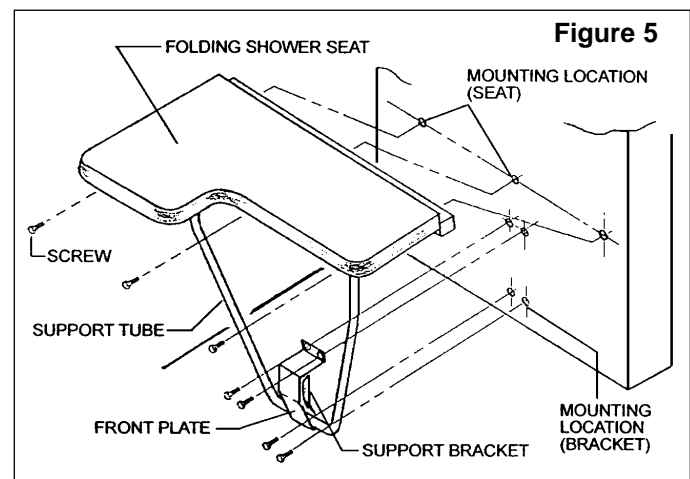

Figure 5
- Position the seat support tube in the support bracket as shown in Figure 5. The tube should rest on the bottom of the front plate.